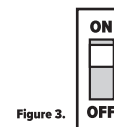

Figure 3.
1. **ON = SWITCH** Qolsys | Interlogix **See figure 3.**